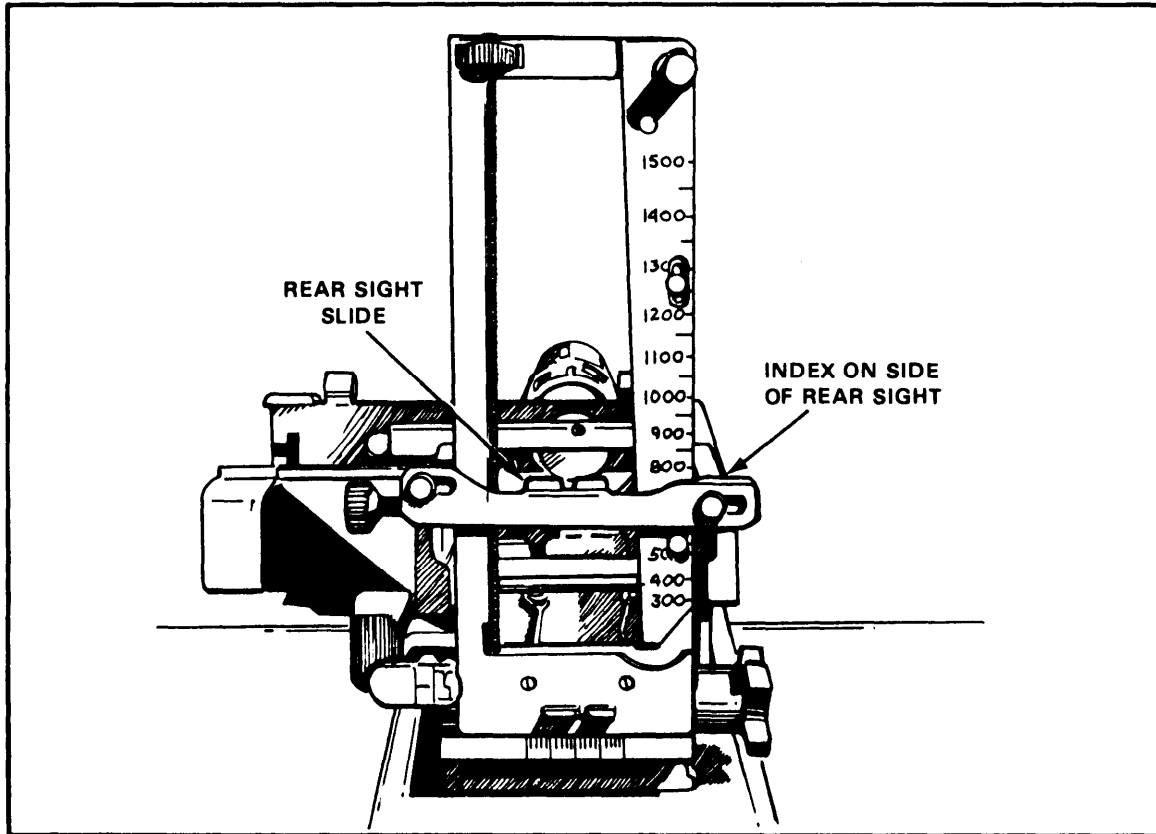

Figure 5-10. Rear sight adjustments.
b. Sight Setting and Laying Exercises. The first exercise teaches the soldier how to set the rear sight quickly and correctly (Figure 5-10). The second builds accuracy and speed in laying the gun on an aiming point, and allows extra practice in sight setting. Explain and show each exercise before beginning instruction.
(1) Sight setting exercise. Explain that, by turning the elevating screw knob, the soldier can make minor adjustments in elevation. All major adjustments will be made with the slide release. Have one soldier act as gunner and another act as coach. Announce the range, for example, EIGHT HUNDRED; have the soldier in the gunner's position repeat the range, set the sight at the announced range, assume the correct gunner's position and announce UP. The soldier acting as coach checks the setting of the slide and points out any errors. soldiers work in pairs, change roles, and go through the exercise until each one can correctly and rapidly set the sight.